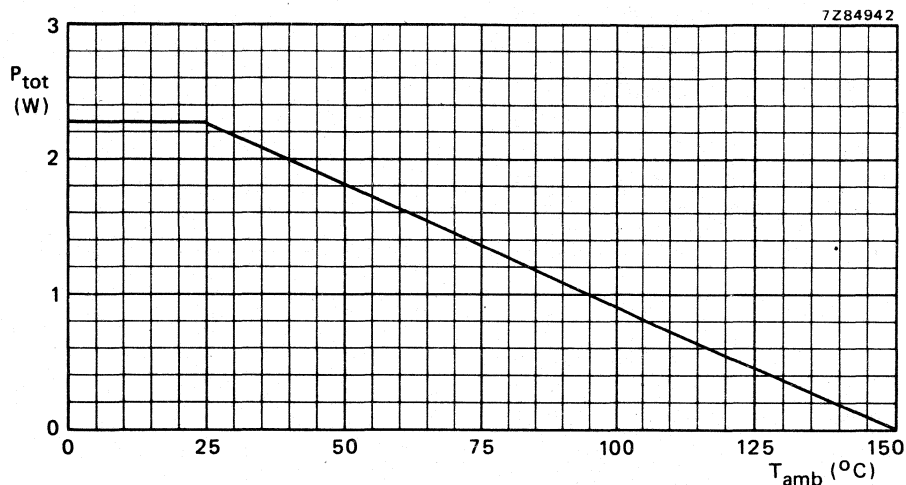

Fig. 2 Power derating curve.
Power dissipation	see Fig. 2
**Note to Fig. 2**